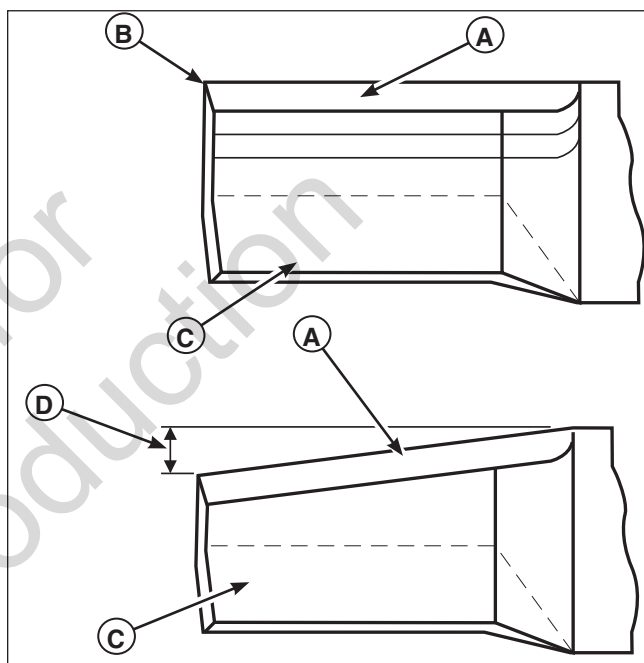

Figure 26. Inspecting the Mower Blade Tips
1. Inspect the mower blade (**Figures 26 & 27**). **Discard the mower blade if it has any of the below conditions.**
- Has more than .5" (12,7 mm) of the mower blade metal removed from previous sharpening or wear (**D**, **Figure 26**).